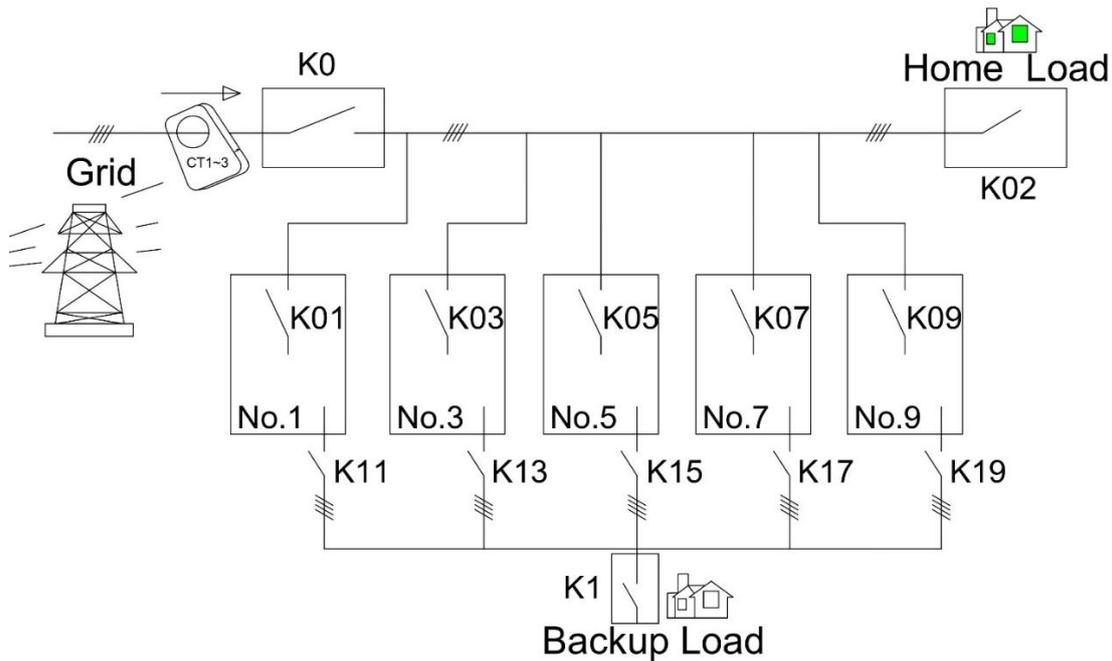

Figure 4.4 The connection diagram of five inverters
Figure 4.4 below shows the connection diagram of five inverters (No. 1, 3, 5, 7, 9). K0 is the main circuit breaker of the power grid. K11, K13, K15, K17, K19 are load circuit breakers, K1 is the load circuit breaker. K02 is a home load circuit breaker. Each inverter has its own power grid circuit breaker respectively K01, K03, K05, K07, K09.
- a) Check whether the cable connection is correct as shown in Figure 4.4 (for BMS connection, CT or meter connection, battery connection, and ground cable connection, refer to the previous chapter.) Check whether the positive and negative batteries are consistent.